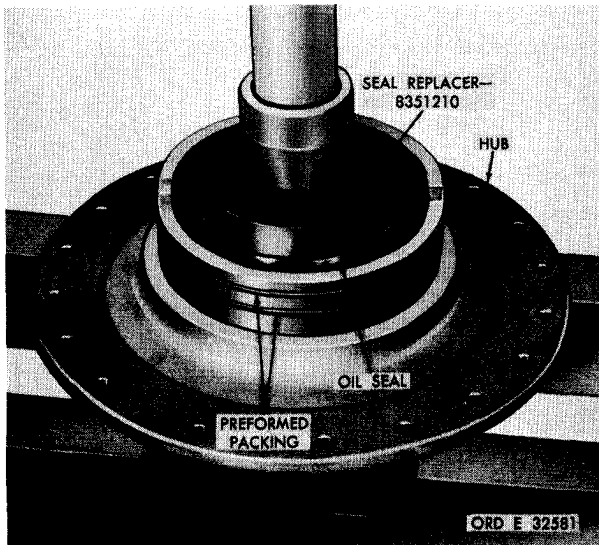

Figure 162. Installing oil seal in end cover hub
f. Install two preformed packings on end cover hub (fig. 162).
g. Using seal replacer 8351210, install oil seal in end cover hub (fig. 162).